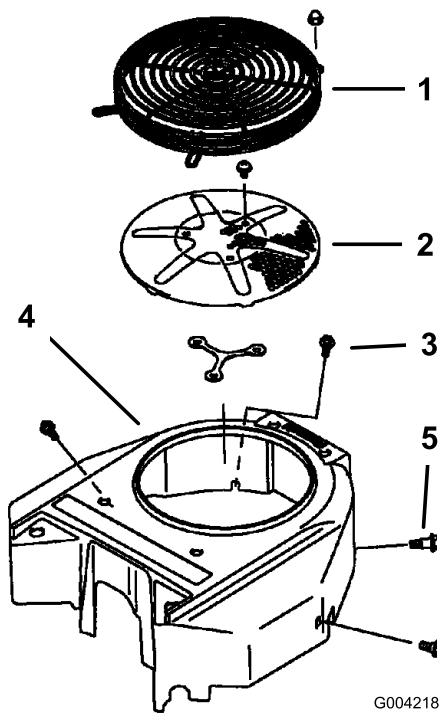

Figure 70
Before each use remove any build-up of grass, dirt or other debris from the engine screen. This will help insure adequate cooling and correct engine speed and will reduce the possibility of overheating and mechanical damage to the engine (Figure 70).
3. Remove the air intake screen, recoil starter and fan housing (Figure 70).
5. Install air intake screen, recoil starter and fan housing (Figure 70).